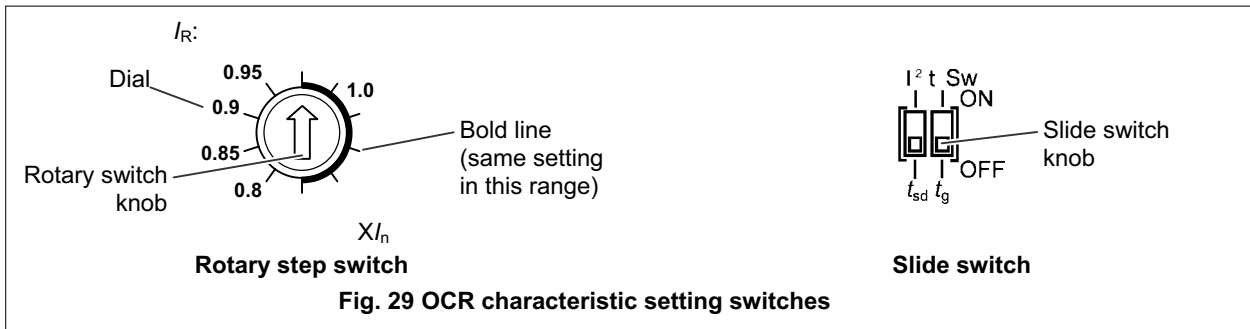

Fig. 29 OCR characteristic setting switches
- 4) Use rotary step switches and slide switches to set the OCR. See Fig. 29.